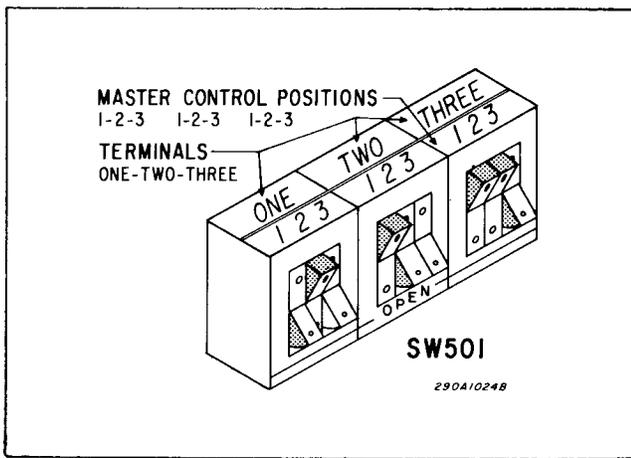

Figure 3-8 Master Switch Programming
The MASTER switch is programmed by means of the nine section miniature rocker switch, SW501. As shown in figure 3-8, each section of the switch is labeled to indicate the terminal and the MASTER position that it programs. ONE, TWO and THREE indicate the terminal programmed by each group of three switch sections. The numerals "1", "2" and "3" denote the MASTER position controlled by the individual rocker switch sections. For example, the close contact of ONE-1 programs terminal 1 for MASTER Position 1, the ONE-2 contact programs terminal 1 for MASTER position 2; etc. Therefore, when ONE-1 is depressed, the device(s) connected to terminal 1 is(are) energized when the MASTER switch is set to position 1; when ONE-2 is depressed, the device(s) connected to terminal 1 is(are) energized in MASTER position 2; etc.
Close TWO-2 and TWO-3 to program terminal 2 (rotating lights) for positions 2 and 3 respectively. Close THREE-3 to program terminal 3 (optional flasher) for MASTER position 3 (see figure 3-8).
D. Program the MASTER switch by depressing the appropriate sections of SW501 with a pencil point or similar pointed tool. As indicated in figure 3-8, the switch contacts are closed when the upper half of the rocker is pressed. Any combination of terminals can be controlled by any given MASTER switch position.